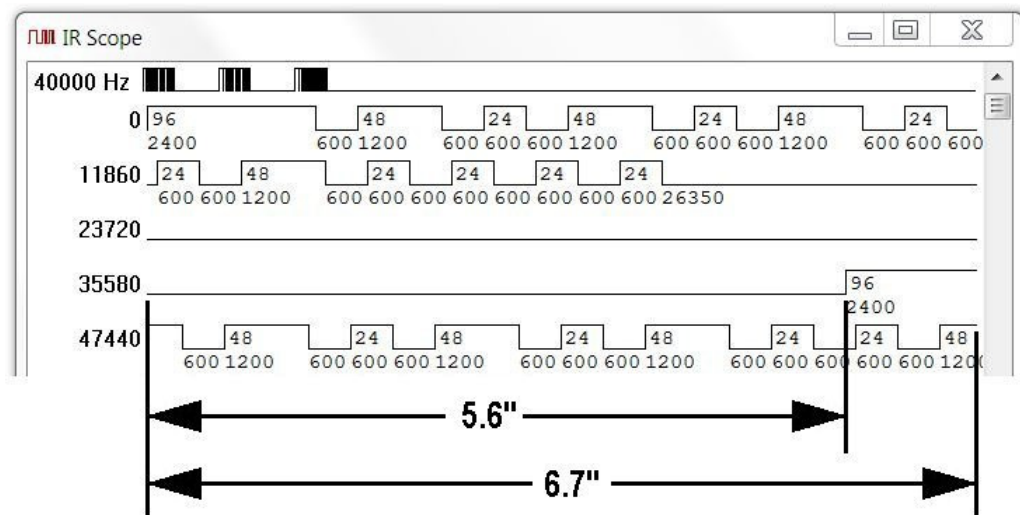

Figure 7. Measuring the Time From One Frame to the Next
10. TAKING MEASUREMENTS DIRECTLY FROM A WAVEFORM. Since waveforms are drawn to exact scale, you can take some timing measurements with a simple ruler directly from the screen. For example, suppose you wanted to know the time from the beginning of the first frame in Figure 7 to the beginning of the second frame. Notice that each line represents 11,860 μ S of time and is 6.7 inches in length. The total time from 0 to the start of the second frame includes the time for three complete lines (3 x 11,860 = 35,580 μ S) plus a portion of the fourth line (11,860 x (5.6/6.7) = 9,913 μ S), for a total of 45,493 μ S. In consideration of accuracy limitations the total should be rounded off to three significant figures, or 45.5mS.